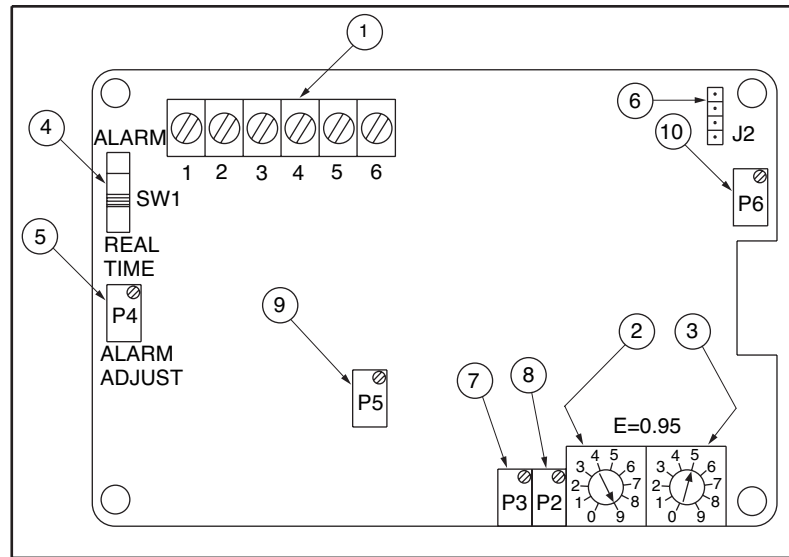

Figure 3-1. Main PC Board
The Main Board is shown in Fig. 3-1. Here are the important components on the board:
- ✓ The slide switch (SW1) on the main board is set to real time (Fig. 3-1).
- ✓ The emissivity adjustment on the main board is set properly (Fig. 3-1).
You can add extension cable between the Sensor Head and the main electronic housing up to 15.2 m (50 feet). After adding the extension cable, the Zero input potentiometer, P3 may be re-adjusted. (See Fig. 3-1, for proper analog output reading)